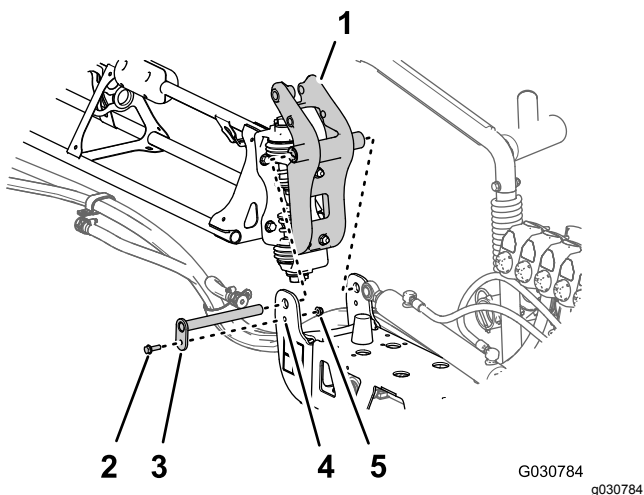

Figure 122
3. Align the bushings in the pivot fitting with the holes in the flanges of the pivot bracket at the end of the center-spray section (Figure 122).